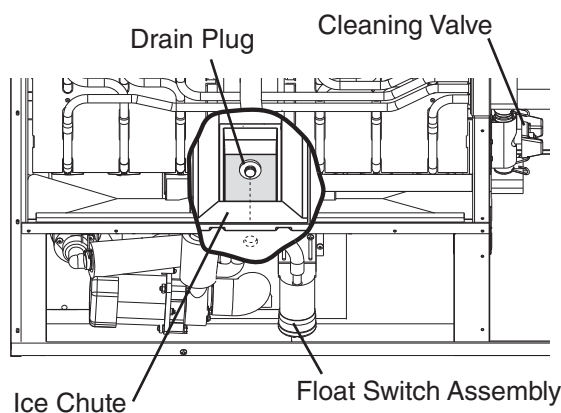

Fig. 3
- 3) Remove the insulation panel, then remove the drain plug located on the lower front part of the ice chute. See Fig. 3. Allow the water tank to drain.